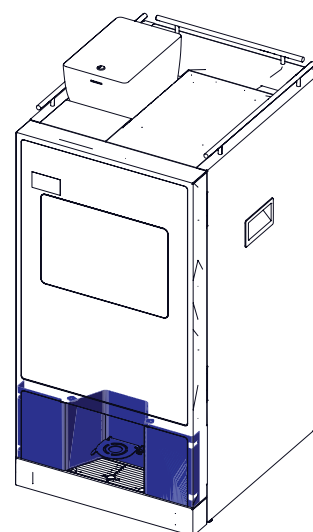

Fig.11.4
11.2.1.5 Cup tray (see fig. 11.4)